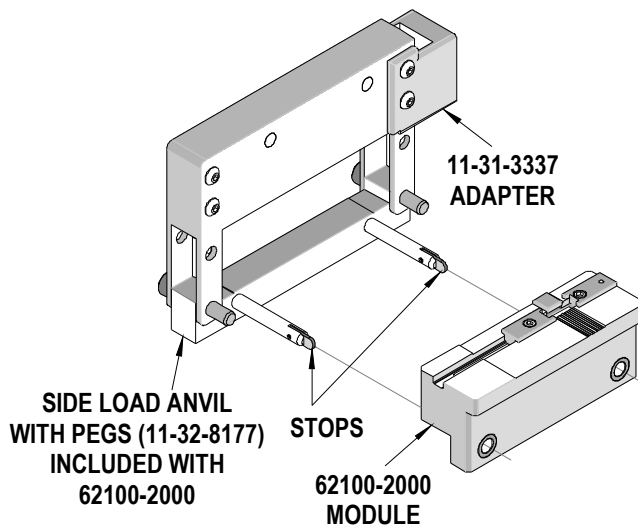

Figure 3
- a. Rotate the two (2) stops on the power adapter pegs so they are in line with the pegs. See Figure 3.